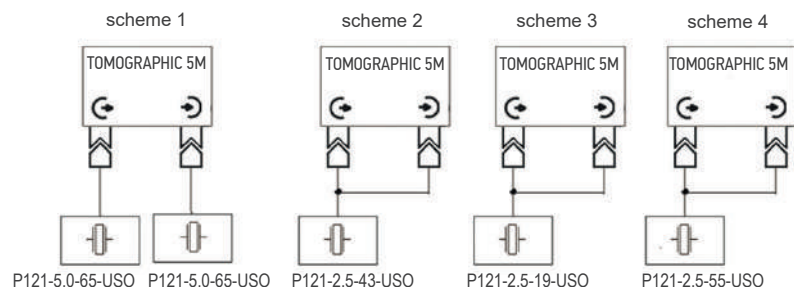

Fig. 3
1.8.1.2 In the multichannel operation mode, the **TOMOGRAPHIC 5M** flow detector in automatic mode, using a multiplexer, is connected in turn to the transducers in accordance with schemes 1 ... 4 (Fig. 3). Switching is carried out with the frequency of the operating cycle of the **TOMOGRAPHIC 5M** flow detector. In each case, the flow detector setting corresponding to the connected transducers is automatically loaded.